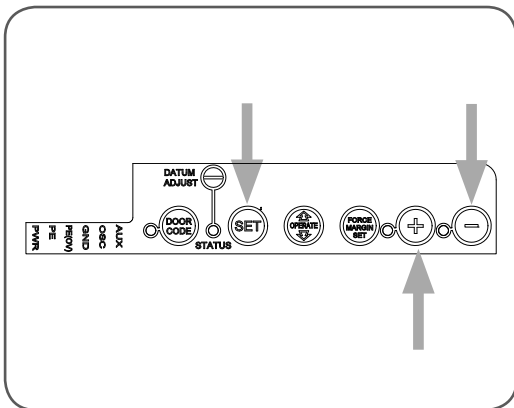

fig 30
- Press and hold the MINUS (-) button until the door reaches the desired close limit position. Single presses will inch the door closed (Fig 30).
- Press the LIMIT SET button to store the close position into memory (Fig. 30).
- Press and hold the PLUS (+) button until the door reaches the desired open limit position. Single presses will inch the door open (Fig. 30).
- Press the SET button to store the close position into memory (Fig. 30).